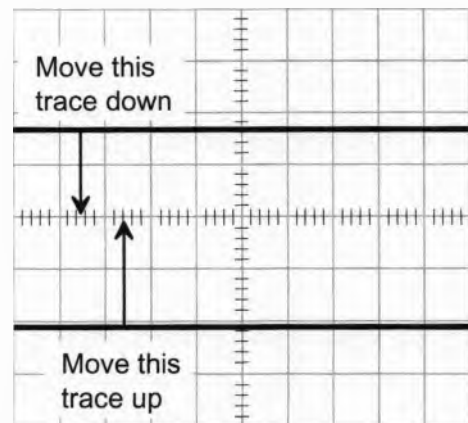

Figure 12
4. Set the *Input Coupling* control for both channels to the *GND* position so that the their traces are still displayed but the waveforms aren't (see Figure 12).
5. Adjust the *Vertical Position* controls of both channels so that the traces line up with the centre line on the graticule (see Figure 12).